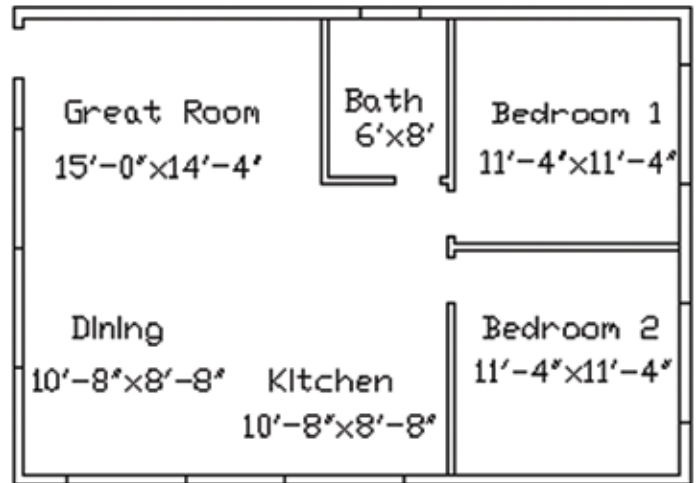

Figure 12.6
Once you have all the interior walls drawn, check figure 12.5 to make sure that they are correct; then go on to the next part. (If you’re on a roll with the Break command, you may want to cut out areas for the windows at this time. Note Figure 12.6.)
6. **Continue labeling** each room and entering the room sizes until your drawing looks like the drawing as illustrated in Figure 12.6.